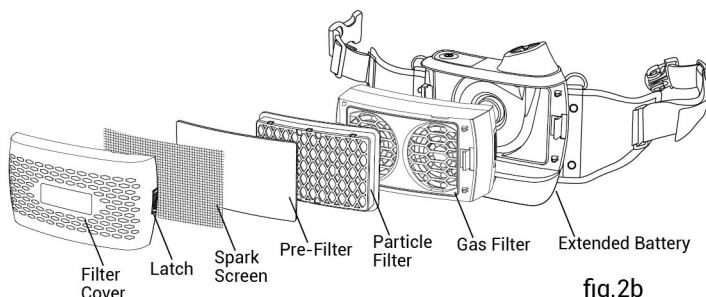

fig.2b
- Please install the particle filter and gas filter according to fig.2b.